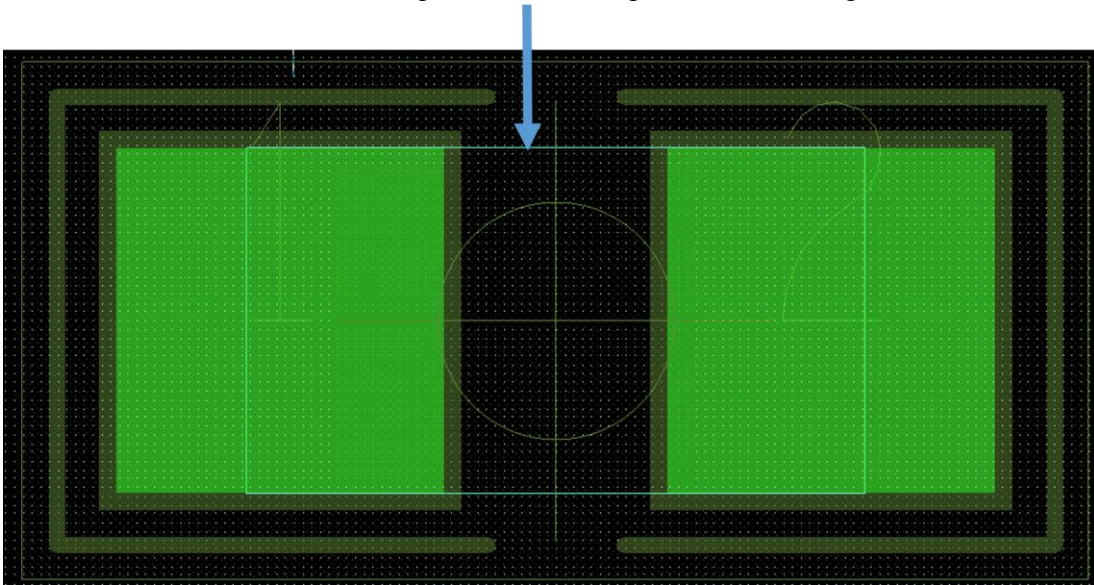

Fig. 12
11. Place the rectangle in the workspace as shown in fig. 12.